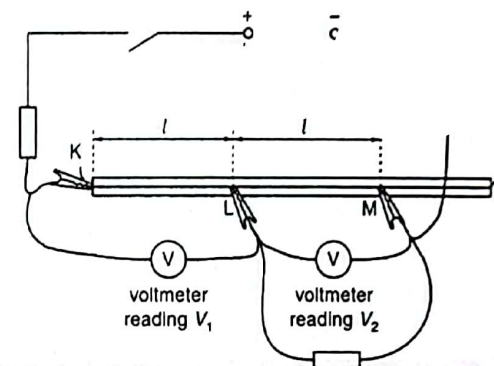

Fig. 3.2
- (iii) Use the other resistor and the other voltmeter to complete the circuit shown in Fig. 3.2.
- (ii) Record the voltmeter readings  $V_1$  and  $V_2$  as shown in Fig. 3.2.